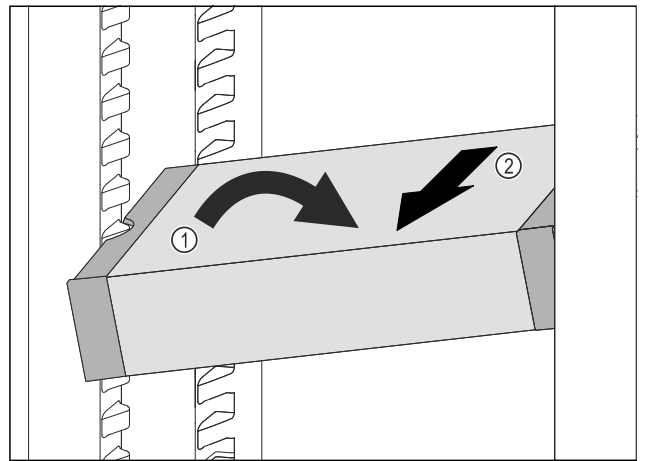

Fig. 139
- ▶ Set VarioSafe in refrigerator compartment at an angle. Fig. 139 (1)
- ▶ Take VarioSafe out to the front. Fig. 139 (2)